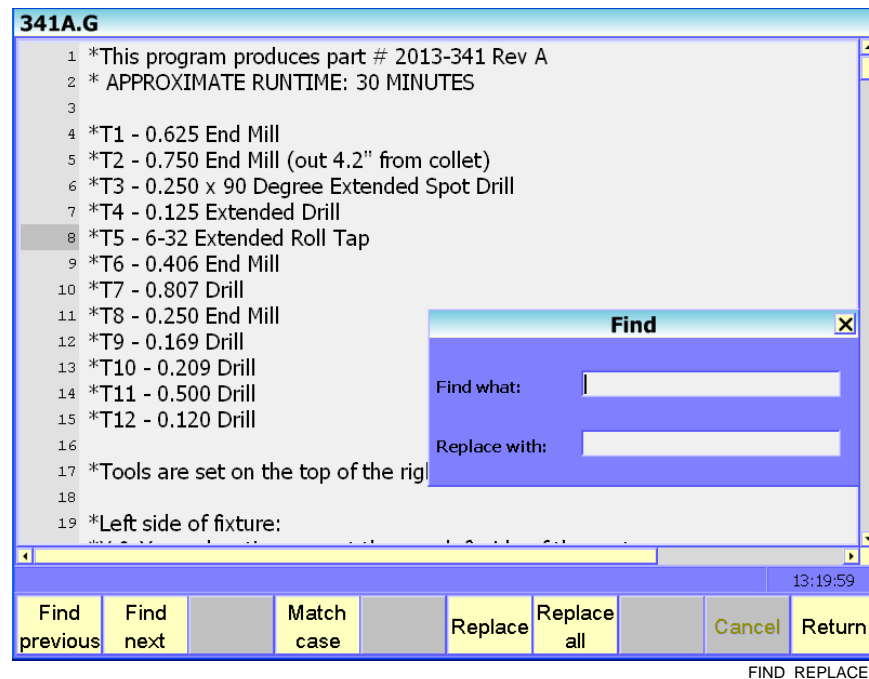

Figure 6-5, Edit Funct (F8) Find/Replace Screen
3. Select **Find / Replace** and press enter to display the Find screen. Refer to **Figure 6-5**.
Press **Find/Replace** to display the Find/Replace screen (refer to **Figure 6-5, Edit Funct (F8) Find/Replace Screen**) and **Table 6-4**.
Use **Replace with:** to replace selected occurrences of text. Enter the appropriate text and the CNC searches the Program Listing for all occurrences of the text. You can edit or skip each occurrence. Use **Match Case (F4)** for a case-sensitive replacement. Refer to **Figure 6-5, Edit Funct (F8) Find/Replace Screen**.
2. Select **Find / Replace** and press **ENTER** to display the Find screen. Refer to **Figure 6-5, Edit Funct (F8) Find/Replace Screen**.